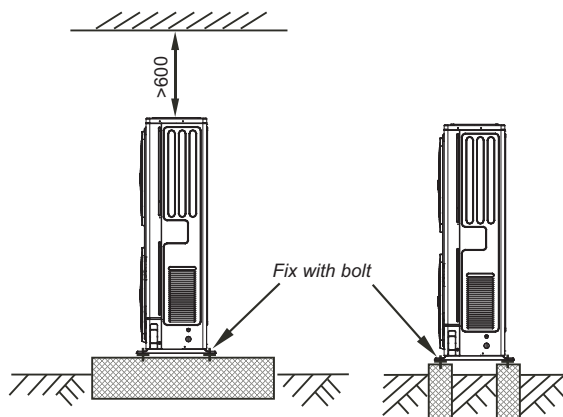

Fig.3-5
- Make concrete foundation according to the sepecifications of the outdoor units.(refer to Fig.3-5)
- Fasten the feet of this unit with bolts firmly to prevent it from collapsing in case of earthquake or strong wind. (refer to Fig.3-5)